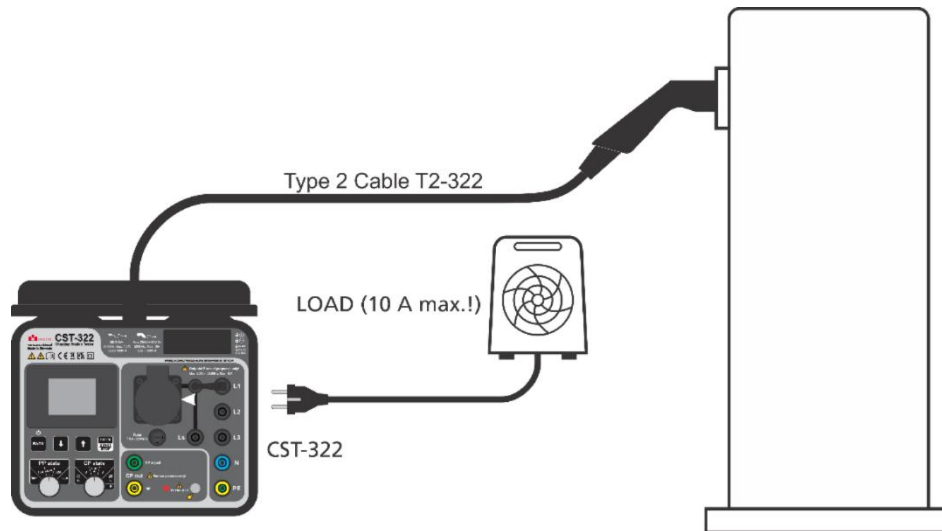

Figure 11: Connection of the single-phase load to the CST-322 Tester
- Set CP switch back to AUTO (A) position, station will switch OFF mains voltage.
- Connect an external single-phase load (radiator, reflector or similar) to Schuko socket and select wished phase to be loaded by appropriate connection of phase selection plug (see the fig. 2, item 5) according to the Figure 11 below.